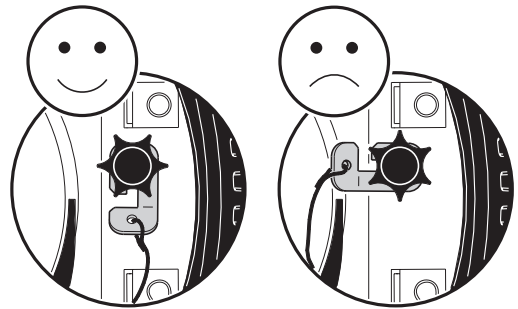

Figure 6
- See Figure 6. Like the old front lens, the new front lens assembly (P/N 55204010) has a safety cable with a carabiner clip. Attach the clip to the head, then push the clip flat to give space for the front lens assembly.